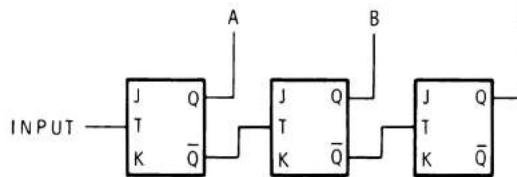

Figure 5-45
31. The circuit of Figure 5-45 is a _____-bit _____
32. The counter of Figure 5-45 contains the number 010. Six input pulses occur. The new counter state is _____.
31. The circuit of Figure 5-45 is a **3-bit binary down counter**.